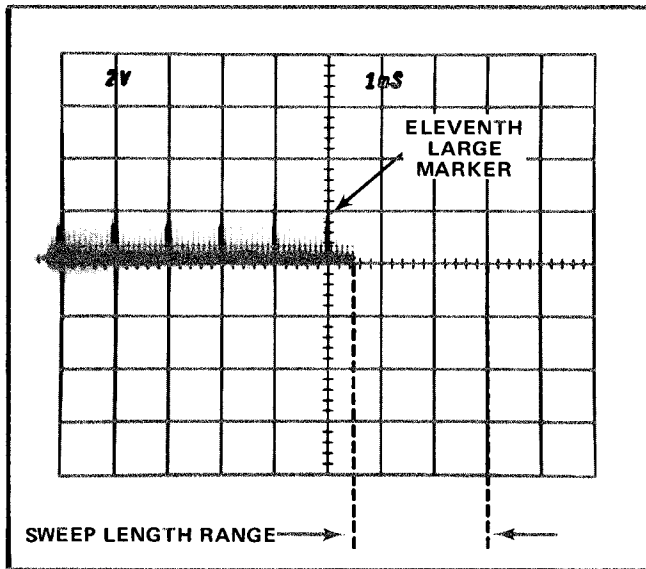

Fig. 5-15. CRT display when checking sweep length.
b. Move the eleventh 1 ms marker to the center vertical line with the horizontal POSITION control. See Fig. 5-15.